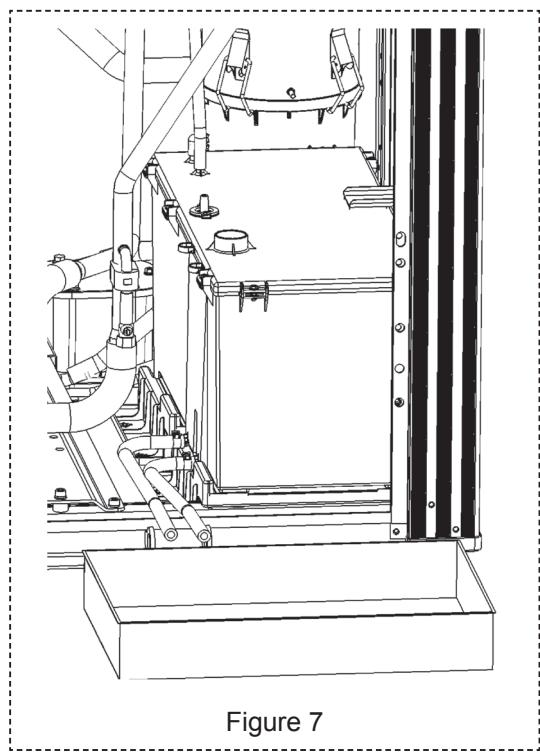

Figure 7
- 5) Remove the caps that are inserted at the ends of the discharge hose (2 in total) attached to the oil tank to remove the remaining oil in the oil tank (Figure 7).